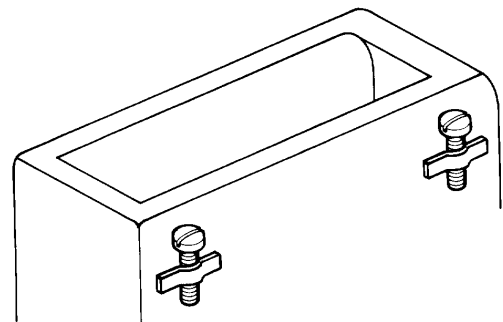

Figure 15. Typical Shield Cover
36. **Shield Cover.** A shield cover is a variation of a backshell in that it protects the connections at the rear of the connector (Figure 15).